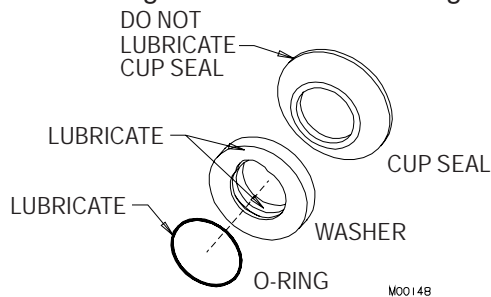

Figure 7-1 Shaft Seal Assembly
1. To assemble the shaft seal, install the cup seal and O-ring on the plastic washer (see figure 7-1). Apply a light amount of approved sanitary lubricant (such as Petrol-Gel) to the O-ring and the face of the plastic washer opposite the bell portion of the seal. Do not allow any lubricant to come into contact with the bell-shaped rubber portion of the seals.